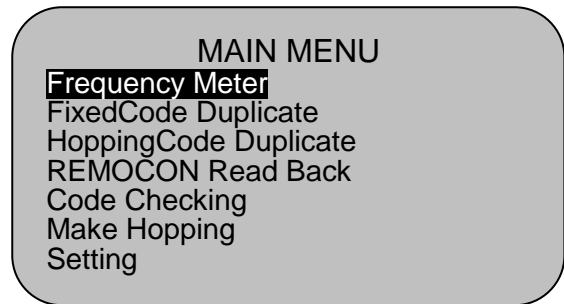

Fig.2
2. LCD screen displays Main Menu.(Fig. 2)